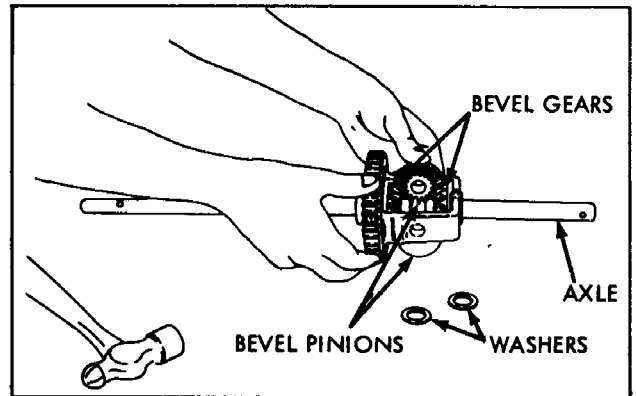

Figure 4-3
- c. Thrust washers must be removed before attempting to remove the pinions. Remove bevel pinions simultaneously by rotating the gears in opposite directions; gears will move out of position. (Figure 4-3)
- c. Install bevel pinions **SIMULTANEOUSLY FROM OPPOSITE SIDES** by rotating pinions in opposite directions while sliding into position in gear assembly. See Figure 4-3. Check alignment by inserting fingers into drive pin holes. If not aligned, drive pin cannot be inserted. Remove and replace bevel pinions as only one tooth out of position will cause misalignment.